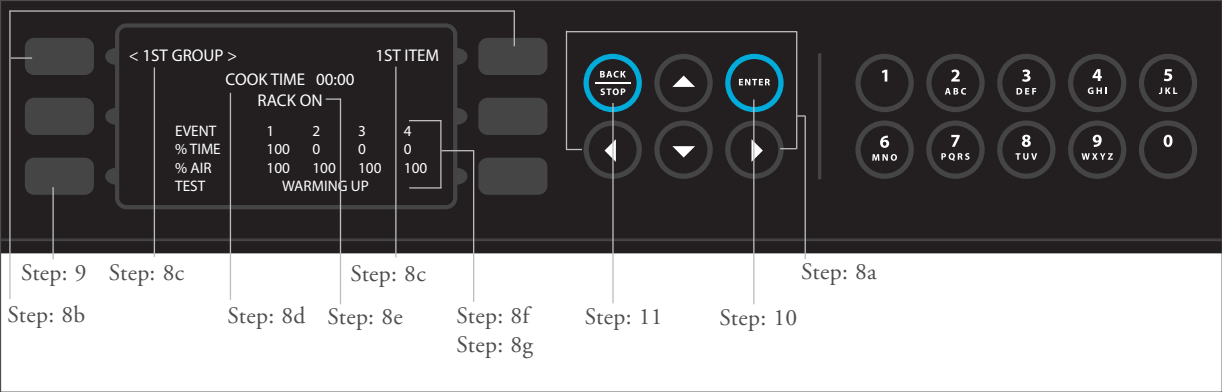

FIGURE 21: Modifying Recipes – Steps 8-11
8. From FOOD ITEM screen (Figure 21):